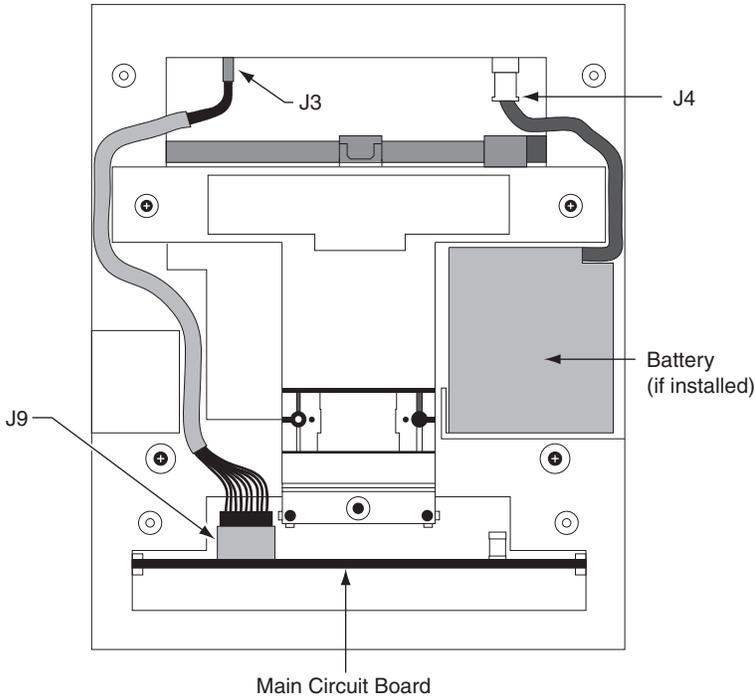

Figure 3
6. Locate the cable that runs from the top panel PCB to the main circuit board. Disconnect this cable from J3 on the top panel PCB. To remove the J3 connector on the top panel PCB, depress the retaining clip on the connector and pull downwards. If the optional battery backup is installed, disconnect the battery cable from J4 on the top panel PCB. See figures 3 and 4 below.
9. Locate the cable that runs from the main circuit board to the top panel PCB. Route the cable as shown in figure 3. Re-insert the connector into J3 on the top panel PCB. Make sure the connector snaps into J3.
**CAUTION:** If the battery backup option is installed, replace the J7 jumper. Be sure that both pins of J7 are shorted by the jumper. See figure 2. Re-connect the battery cable to J4 on the top panel PCB. See figures 3 and 4.